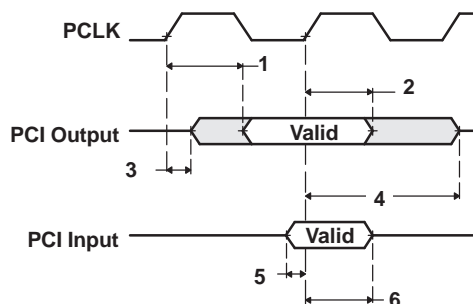

Figure 5-38. PCI Input/Output Timing
5.11.3 Timing Requirements for PCI Inputs (see Figure 5-38)